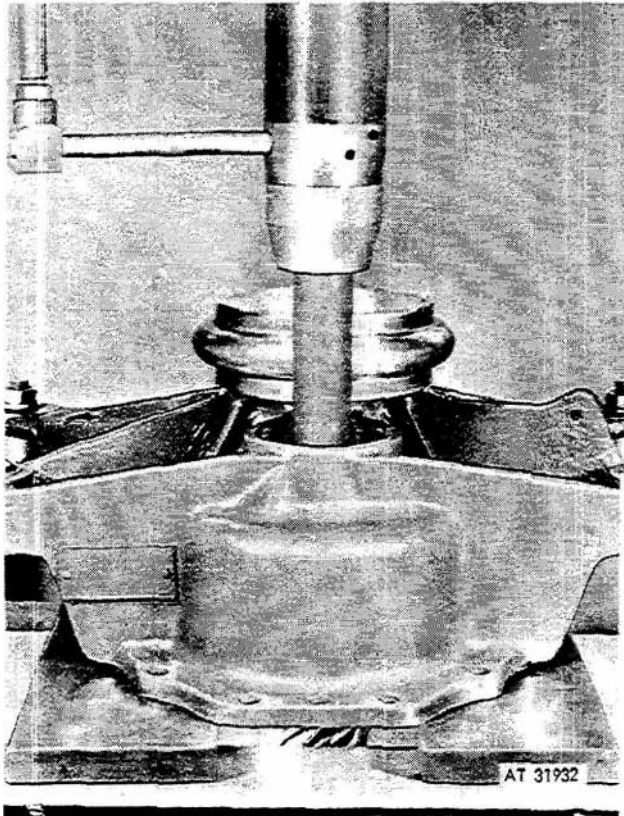

Figure 3-136. Pressing pinion from input bearing.
(4) Disconnect cover (17, fig 3-133) by removing snap ring (16). Remove preformed packing (18), washer (19), and snap ring (20). Disconnect cap (22) by removing screws (21). Press pinion from housing (fig 3-136).